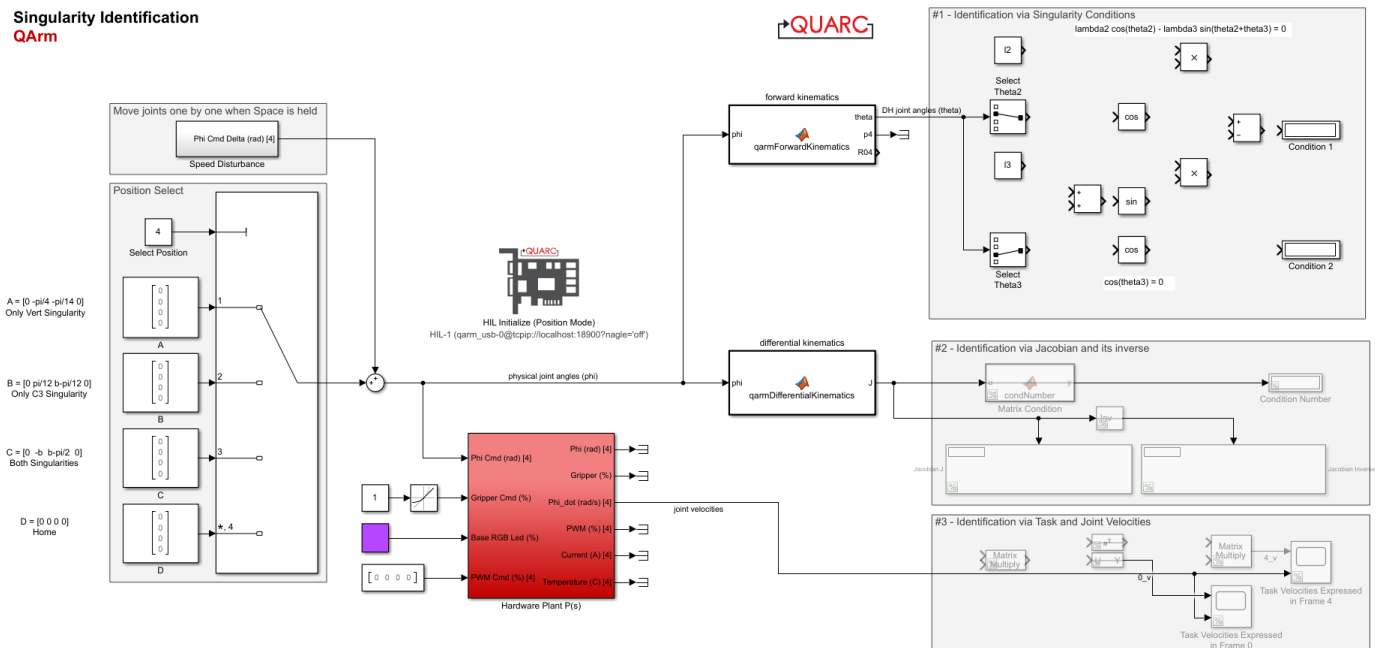

Figure 1 - Simulink model to explore the singularities of the QArm
1. Open the Simulink model SingularityIdentification.slx (Figure 1).